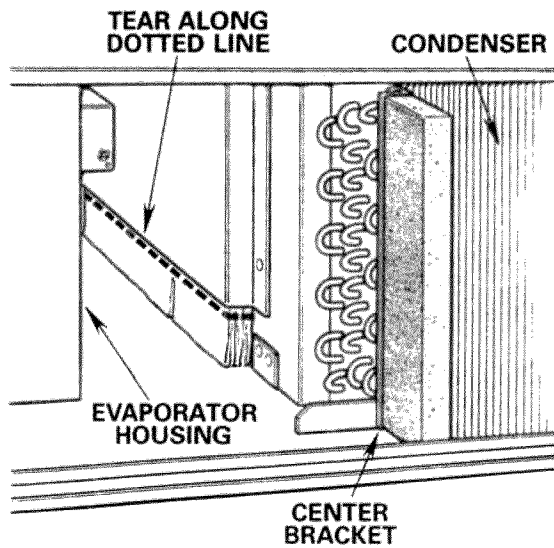

Figure 3 - Insulation to be Removed
5. Reach inside the refrigeration compartment, between the evaporator housing and the condenser and **tear off** the bottom of the insulation. See Figure 3. Remove as much of the insulation as possible to allow an air passage.